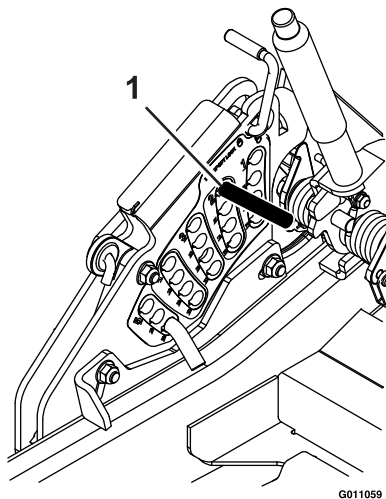

Figure 2
- D. Install a 1/2 x 6 inch (approx.) rod or bolt through the 2 inch height of cut hole (see Figure 2).